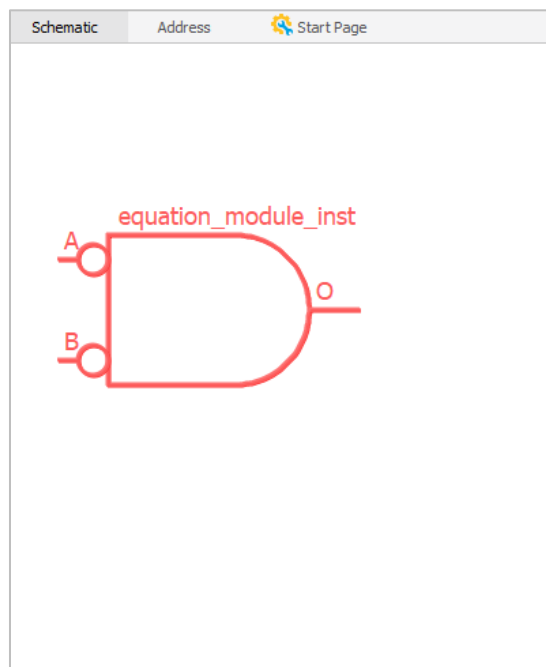

Figure 2.56. Schematic View Shows an Equation Module
3. Click **OK**. The schematic block for the equation module in red appears in the Schematic view (Figure 2.56).